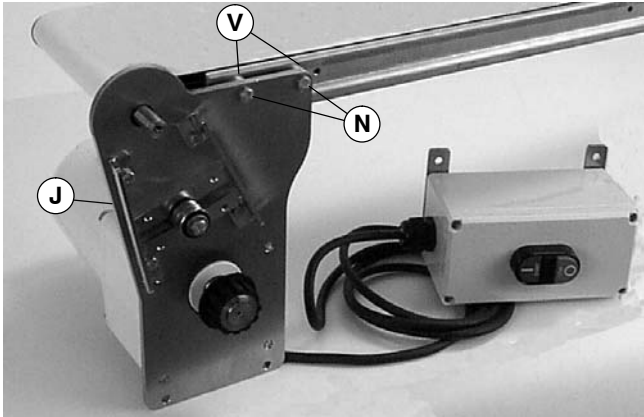

Figure 4
**NOTE:** For a 7300 Series mounting package, install two 1.758" (44.7mm) long spacers (V of Figure 4) (shipped loose) between mounting plate/gearmotor assembly (J) and conveyor. On a 7200 Series (shown), the two 0.438" (11.1mm) long spacers (V) are attached to the mounting plate/gearmotor assembly.
3. Attach mounting plate/gearmotor assembly (J) with screws (N). Tighten to 92 in-lb (10.4 Nm).